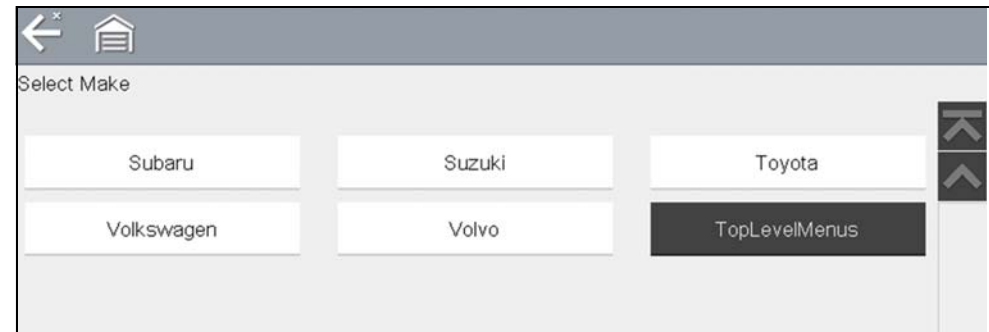

Figure 11-1 Training and Classes
2. Select **Training and Classes** from the Vehicle Make menu (Figure 11-1) to access the menu options.